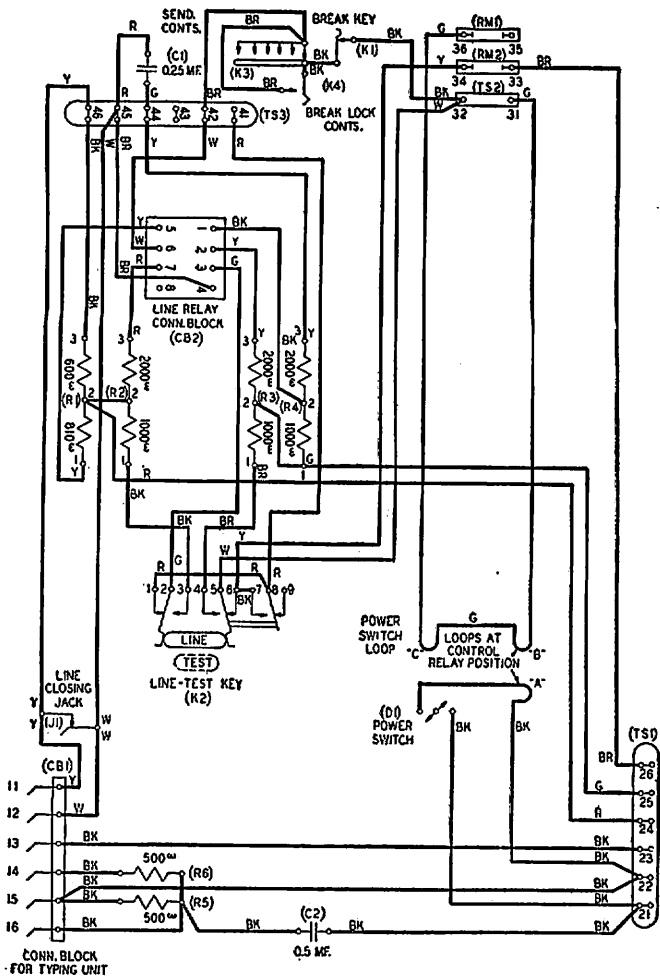

Fig. 26—Nos. 14-B and T Teletypewriter Bases
- Fig. 26—Nos. 14-B and T Teletypewriter Bases